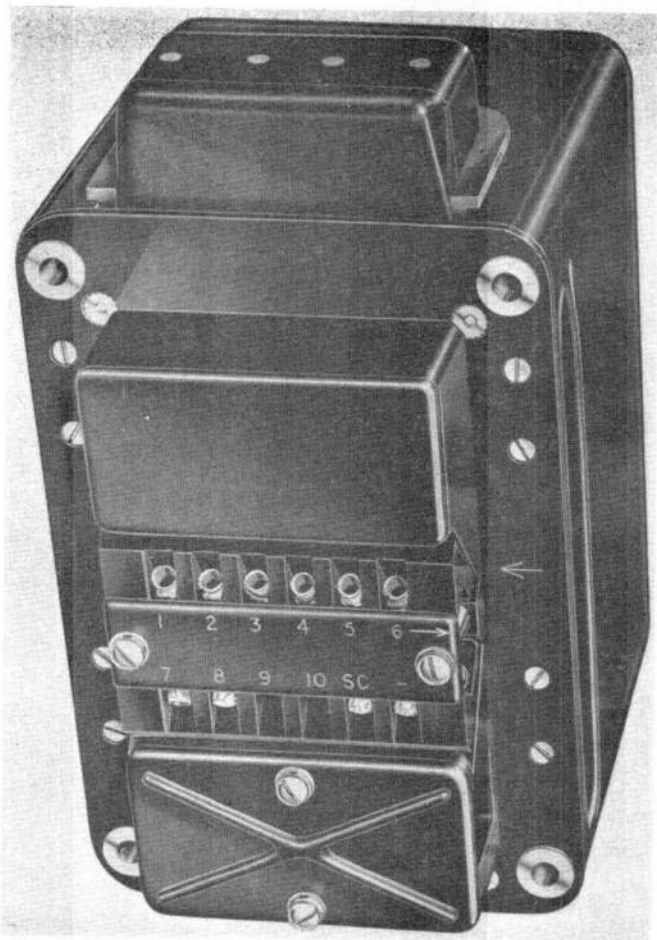
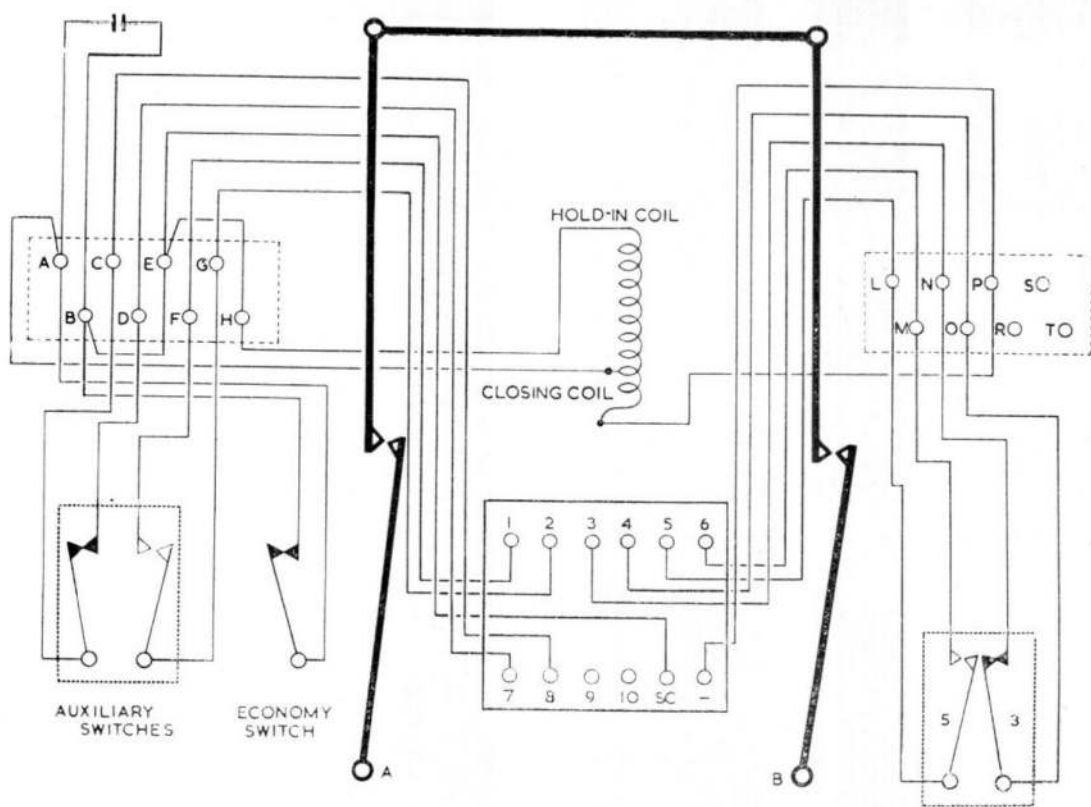

Fig. 1. A typical unit in the D8600 series
Fig. 3. Typical circuit diagram
2. Although basically similar in design, the types in the D8600 series differ in auxiliary contact arrangement and operating coil voltage. For details of specific types, reference should be made to A.P.4343C, Vol. 1, Book 2, Sect. 4. A contactor, typical of the series, is shown in fig. 1 and 2, with a typical circuit diagram in fig. 3.